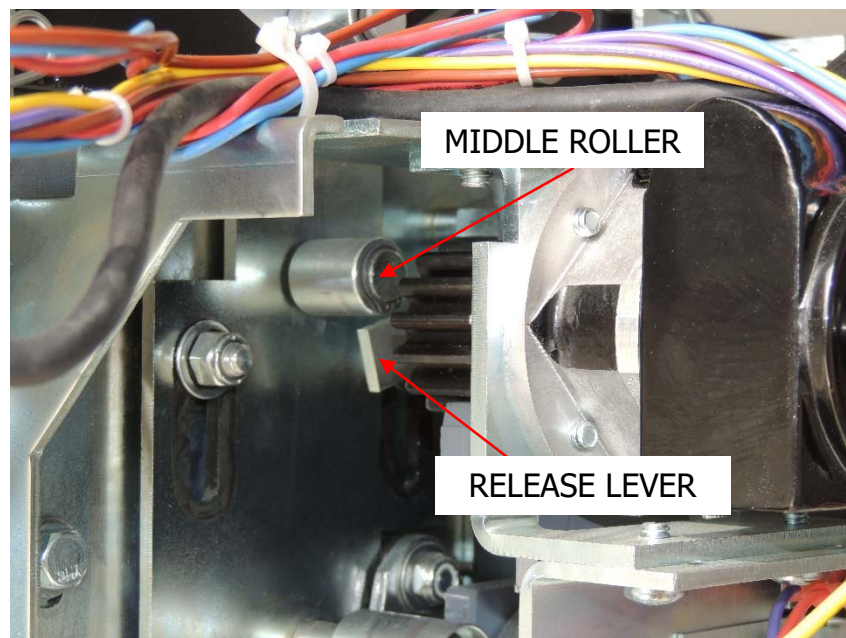

FIGURE 23
21. When the lock is retracted by key, the release lever lifts the **Middle Roller** on the mechanism plate, which allows the **Lockhead Roller** to lift out of the way of the travelbar assembly (FIGURE 23). Make sure the release lever touches, but does not lift the middle roller when tightening.